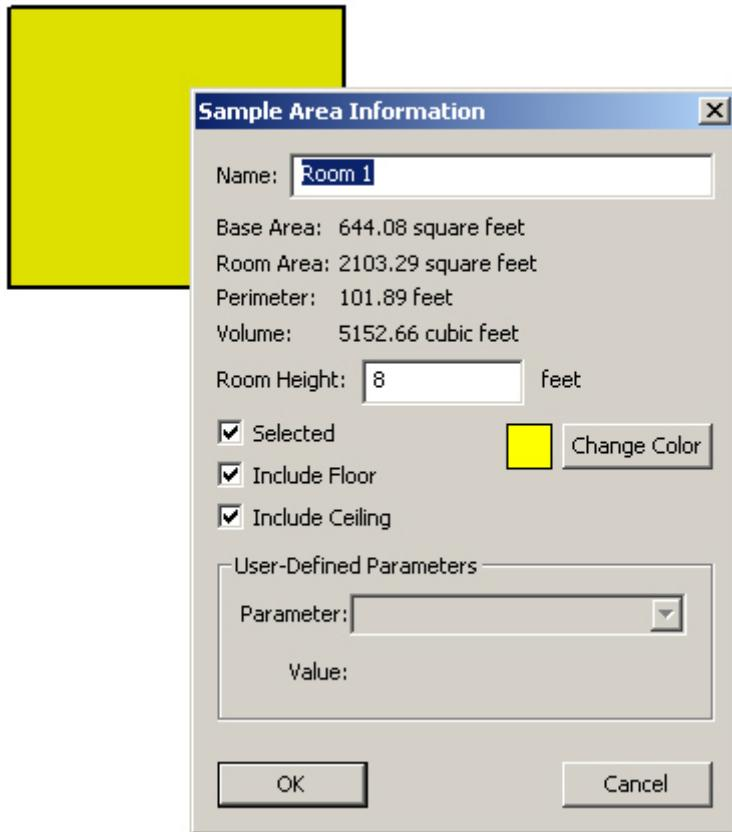
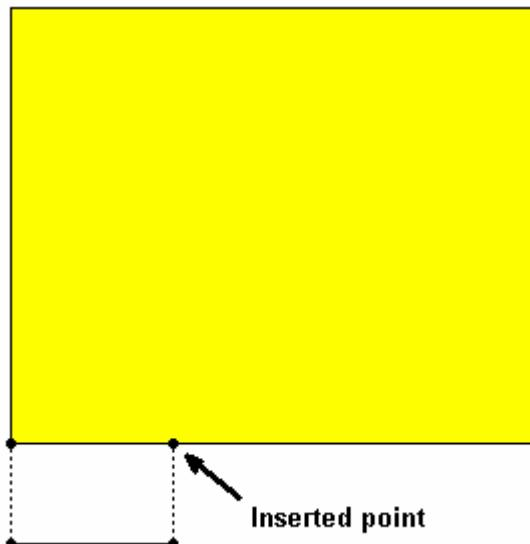

Figure 2.19. Room Information Dialog Box
Figure 2.20. Room with Inserted Point
4. Choose the Main Menu; select **Sampling Goals > Compare Average to Fixed Threshold > Data not required to be normally distributed > Simple Random Sampling (Wilcoxon signed ranks test)**. Click the Apply button to place samples in the Sample Area. You should now have a Sample Area with 24 sampling locations similar to that shown in Figure 2.19.
7. Finally, to remove the sampling locations listed in Remove.txt from the Sample Area, choose Main Menu option **Map > Sample Points > Remove**. Select the file **Remove.txt** and click the **Open** button. You will see in Figure 2.20 there now are only 16 sample points instead of the original 24 shown in Figure 2.19.